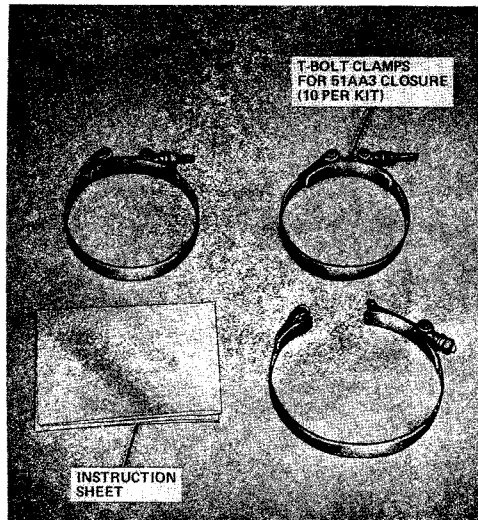

Fig. 13—♦Kit of Parts D-181228♦
- (5) Kit of Parts D-181228 (Fig. 13) consists of 10 T-bolt clamps for 51AA3 closure.